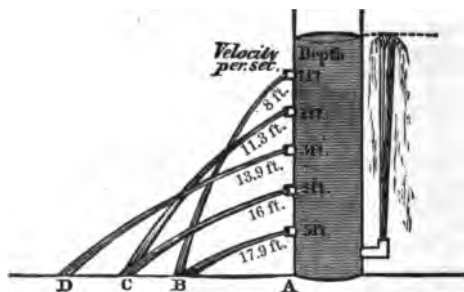

FIG. 71.—VELOCITY OF JETS.
is never reached in practice, nor is the calculated velocity ever quite reached, on account of the friction. The *range* of the spouting liquid may be found by multiplying the velocity of discharge by the number of seconds which it has to flow before striking the ground. This last is the same as the time in which a body would fall to the ground from the height of the opening. For example, in Fig. 71 the water flows from the middle orifice with a velocity of 9.8 feet per second. As this orifice is 3 feet from the ground, the time of falling from there to the ground is, by Art. 95,
∴ the range = 9.8 feet \times .45 = 4.410 feet (= *ad* in Fig. 71).
Exercises.—1. Verify the velocities of the different jets in Fig. 71.
4. Making no allowance for the *vena contracta*, how much water would be discharged through the lowest opening in Fig. 71 in 1 minute if the opening is 1 inch square and the surface of the water be kept at the same height?